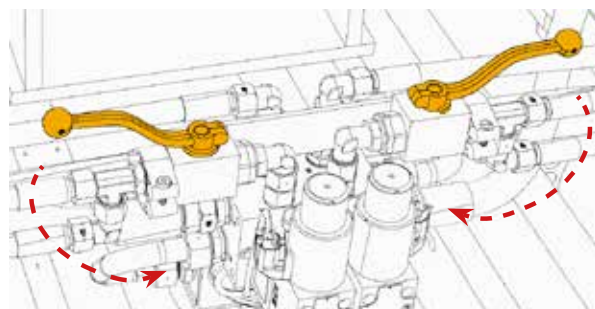

Fig 10.
3. Plug the electric connector to the 24V power socket. fig 10.